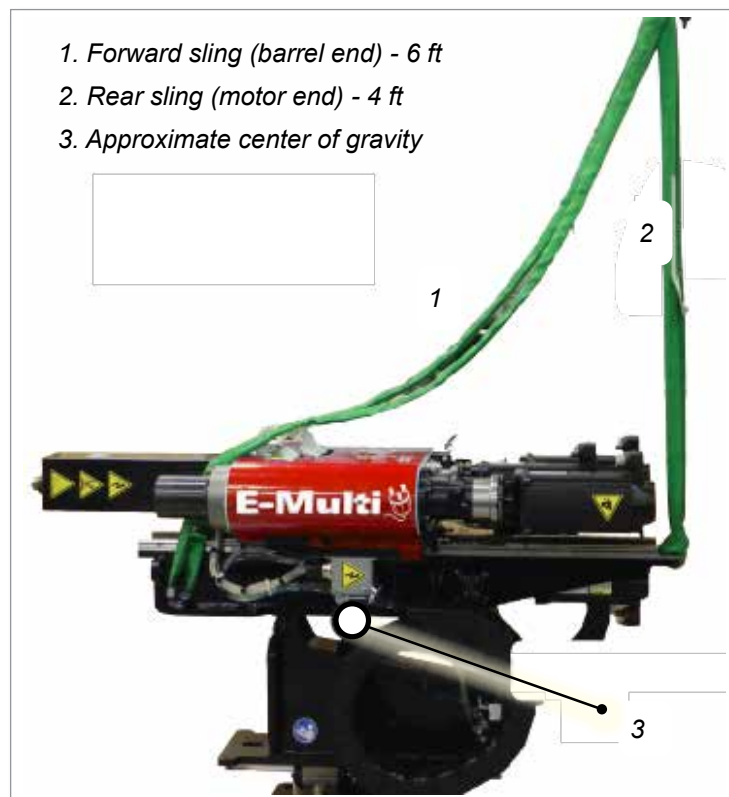

Figure 11-2 Sling positions of the E-Multi Radial vertical beam (in horizontal orientation) and the approximate location of the center of gravity.
3. Attach the slings to the unit as shown in Figure 11-2, Figure 11-3 and Figure 11-4. Use the slings provided in the crate. Note the approximate point of the center of gravity.